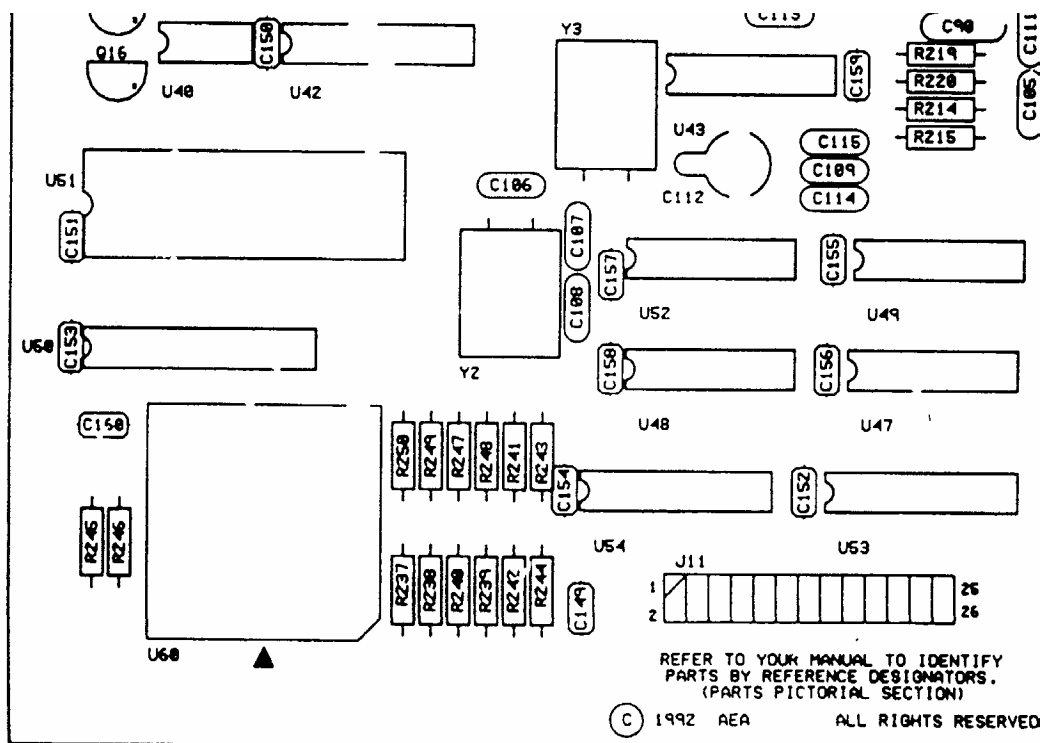

Figure 2: PK-900 circuit board layout showing the location of C112
Step 3: With the help of Figure 2 below, locate the variable capacitor C112 in the left-front quadrant of the PK-900 circuit board. It is located near the U43 and Y3.